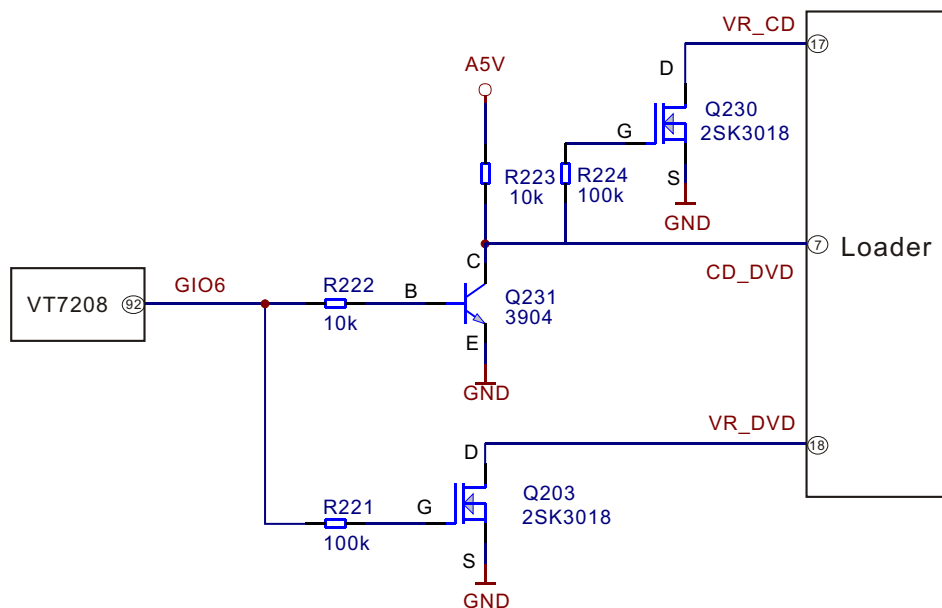

Figure 3.2.5.1 CD/DVD mode switch circuit diagram
1. CD/DVD mode switch circuit is shown as the following figure 3.2.5.1: